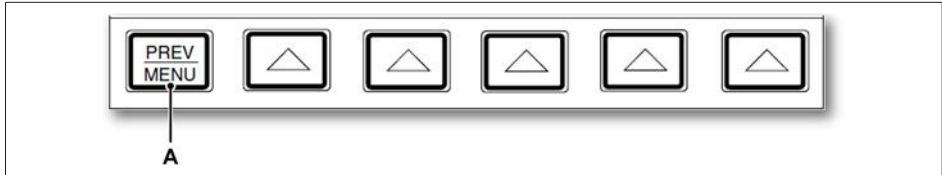

Fig. E.7 Fluke 5700A/5720A Multifunction Calibrators display
4. To return to normal operation, press **PREV/MENU** twice (see Fig. E.7)